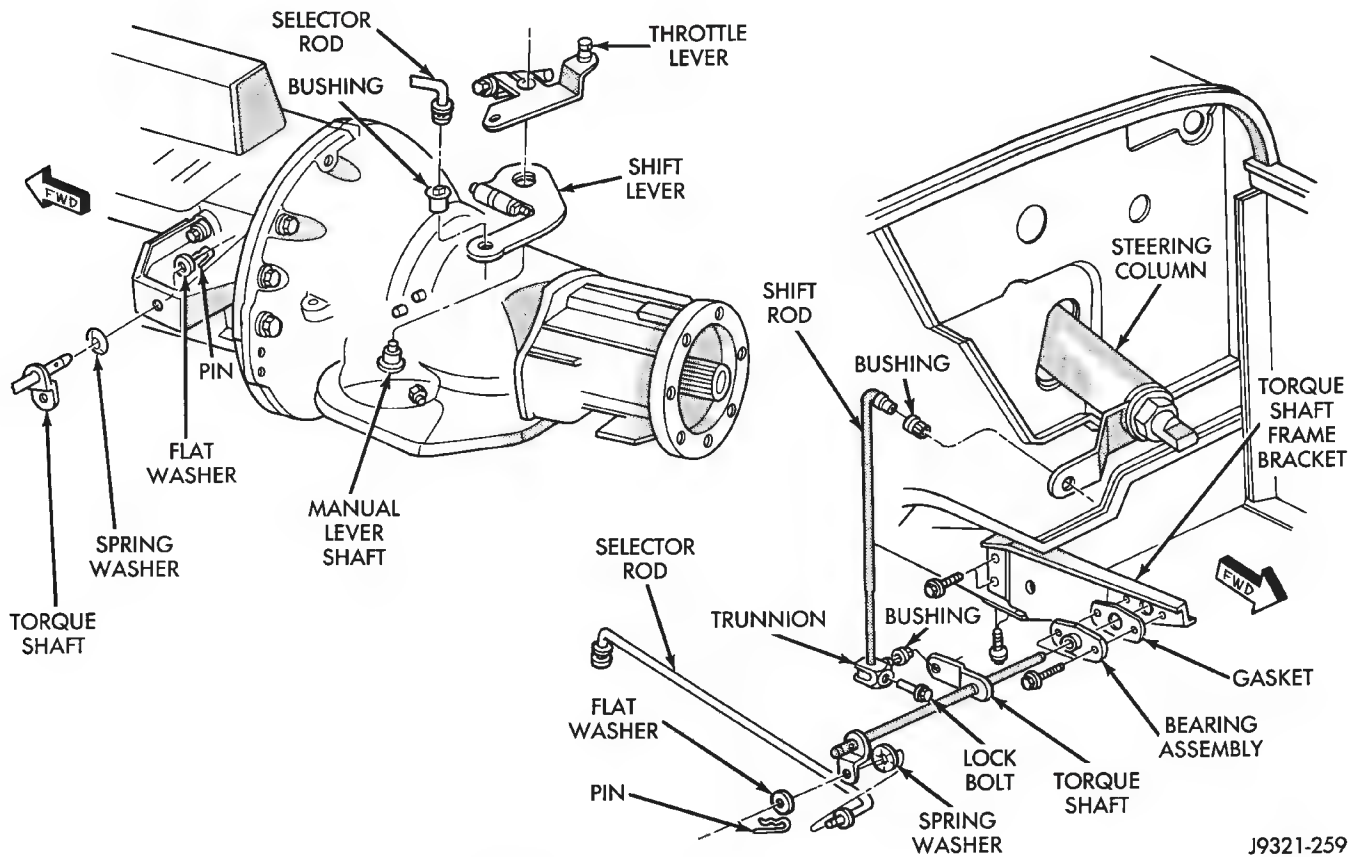

Fig. 2 Gearshift Linkage (YJ)
- (1) Check linkage adjustment by starting engine in Park and Neutral.
(2) Adjustment is OK if engine starts only in park and Neutral. Adjustment is incorrect if engine starts in one but not both positions.
(3) If engine starts in any position other than Park or Neutral, or if engine will not start at all, park/neutral position switch may be faulty.
(4) Shift transmission into Park.
(5) Raise vehicle.
(6) Check condition of shift rods, bellcrank, bellcrank brackets and linkage bushings/grommets (Fig. 2). Tighten, repair, replace worn, damaged parts. Do not attempt adjustment if linkage components are worn or damaged.
(7) Loosen shift rod trunnion lock bolt or nut. Be sure upper shift rod slides freely in trunnion (Fig. 2). Also be sure shift rods and bellcrank rotate freely and do not bind at any point.
(8) Verify that manual lever is in Park detent (Fig. 2). Move lever all the way rearward to be sure it is in Park.
(9) Check for positive engagement of park lock by attempting to rotate propeller shaft. Shaft will not turn when park pawl is engaged.
(10) Adjust shift rod trunnion to obtain free pin fit in bellcrank arm and tighten trunnion lock bolt or nut. Prevent shift rod from turning while tightening bolt or nut. Gearshift linkage lash must be eliminated to obtain proper adjustment. Eliminate lash by pulling downward on shift rod and pressing upward on bellcrank.
(11) Confirm proper adjustment by starting engine in Park and Neutral. Engine should start in these positions only. **If engine starts in any position other than Park or Neutral, adjustment is incorrect or neutral switch is faulty.**
(12) Lower vehicle and verify that steering lock operates correctly.